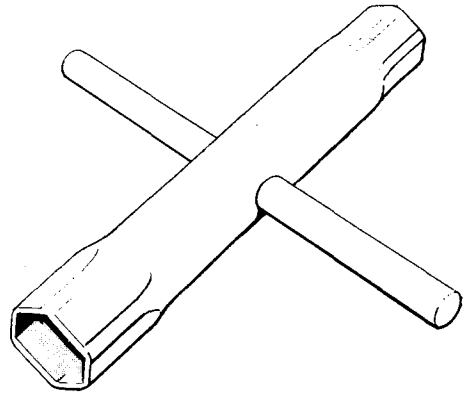

Fig. 8 Box spanner
10. **Box spanners.** These also give total enclosure of the nut and are used when the only access is from directly above the nut. The double sided handle reduces side thrust when turning (Fig. 8).